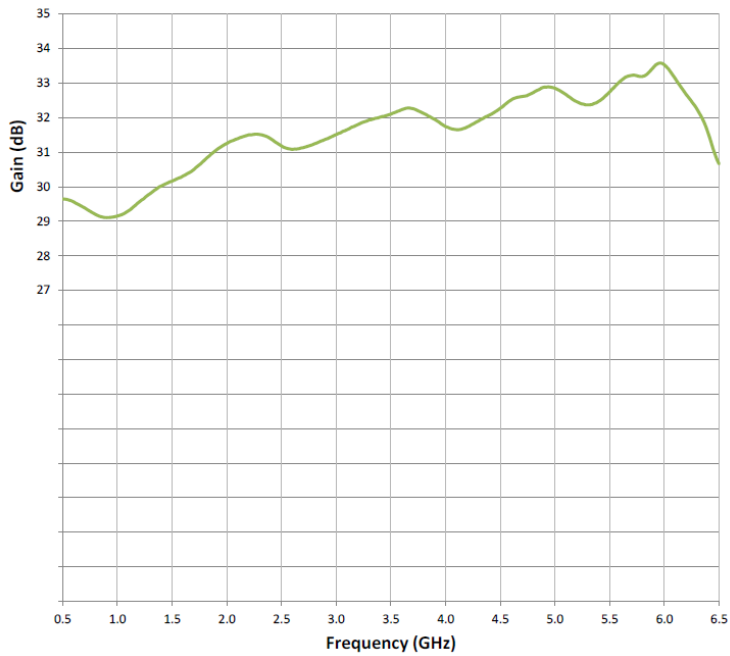

Figure 4-8. Typical A1 Preamplifier Response
NOTE: The A1 Preamplifier's response may differ considerably, particularly in flatness, from the typical response shown in Figures 4-8.
7. The typical response for the A1 Preamplifier (at maximum gain setting) is shown in Figure 4-8.